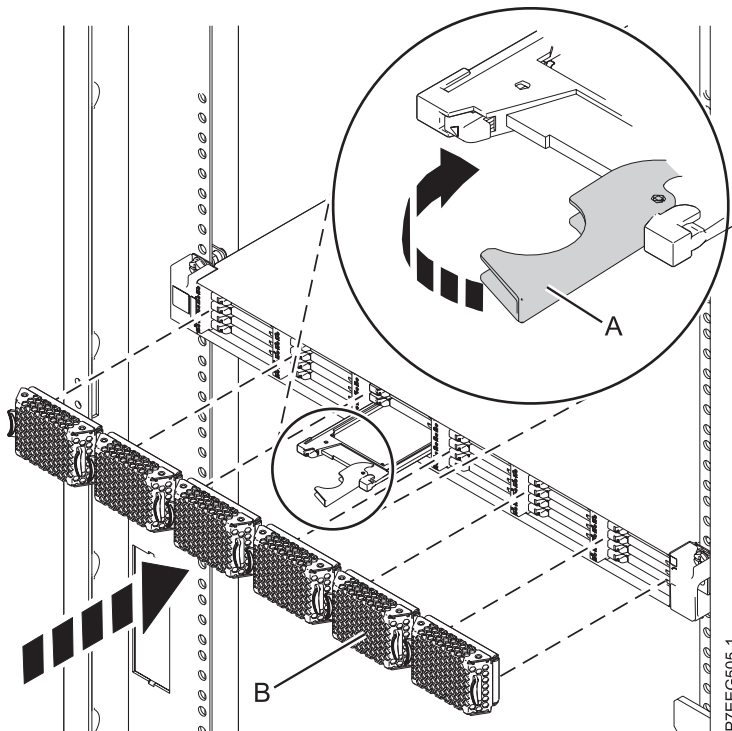

Figure 23. Replacing a solid-state drive in the ED/R1 PCIe storage enclosure.
4. When the solid-state drive identify LED turns on solid, slide the solid-state drive all the way into the ED/R1 PCIe storage enclosure until it is fully seated. Then rotate the handle (A) to the locked position. See Figure 23.
6. Install the bezel (B).